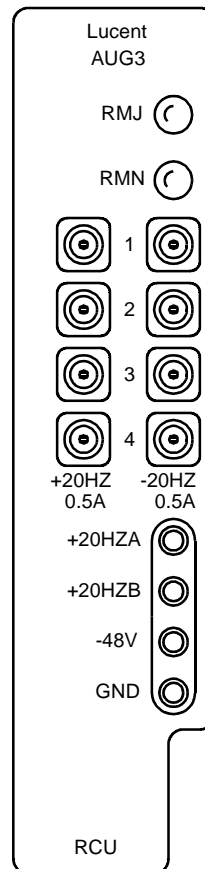

Figure 4-3. Ring Control Unit (AUG3) Faceplate
1. Get one **AUG3 RCU** (Figure 4-3) and inspect for possible physical damage. Be sure to remove the connector guard.
21. On the **RCU** at **+20HZA** jack and **GND** jack (Figure 4-3), measure DC positive ringing.